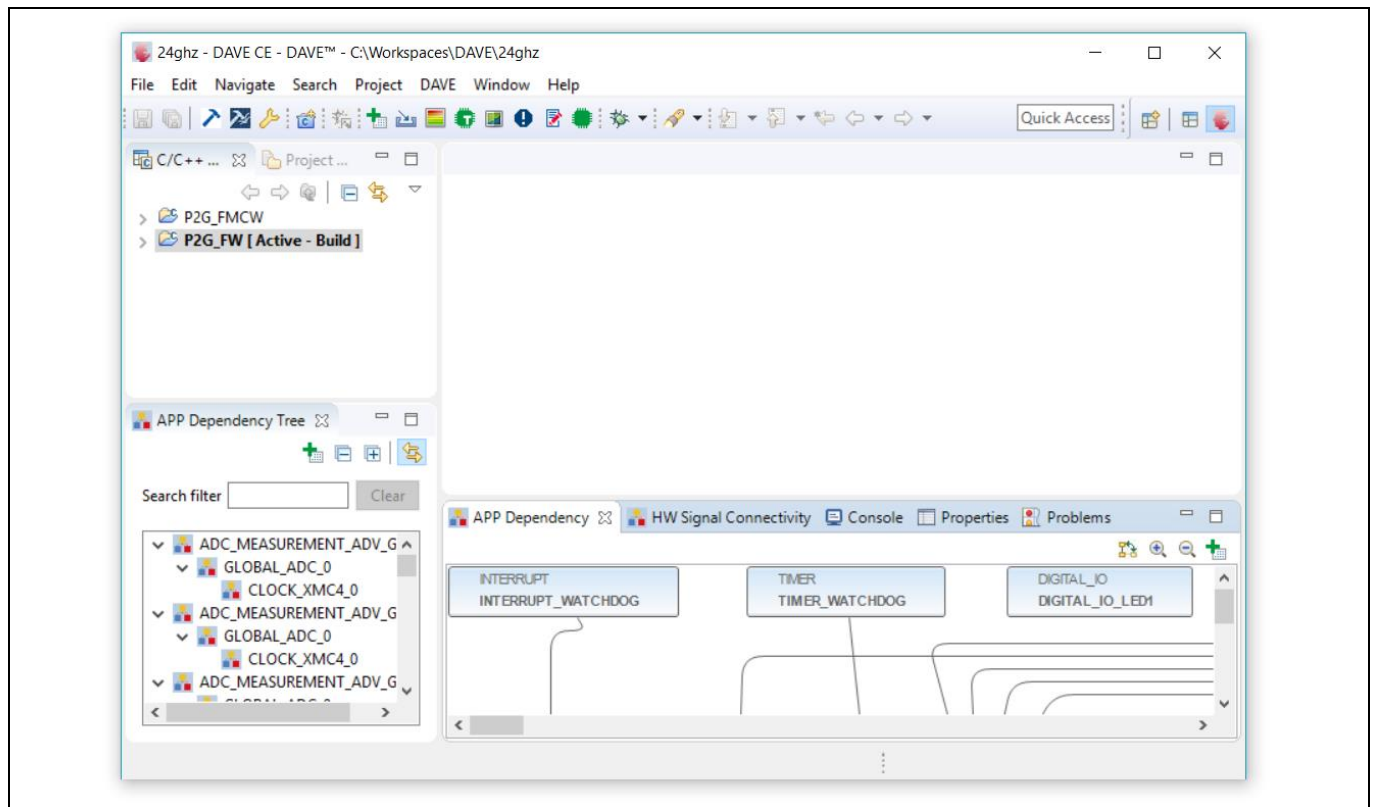

Figure 28 DAVE™ editor view
- The project file should appear under the **Project List**. Click on the **Finish** button. A screen similar to Figure 28 should appear.